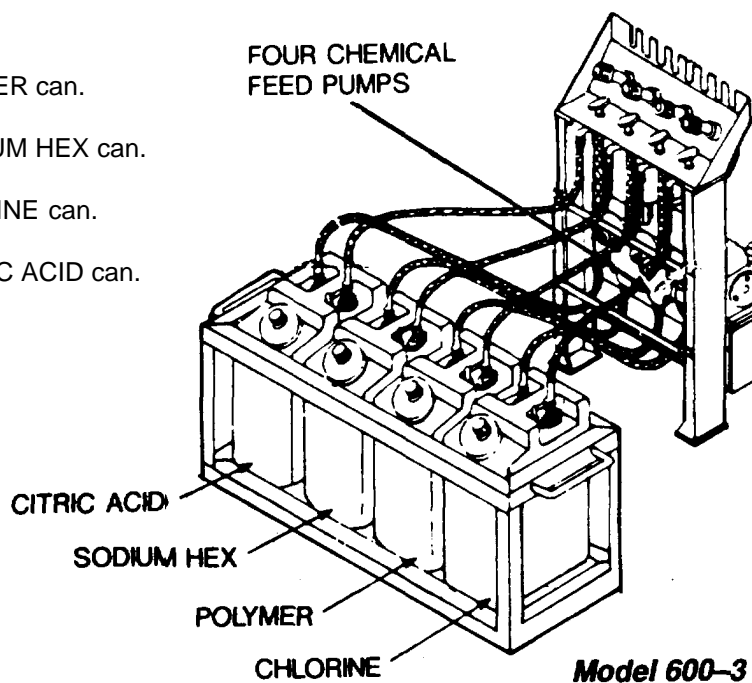

Figure 2-33. Tubes Attached to Chemical Feed Pump
r. Attach product water systems hose (fig. 2-33), working backwards from the distribution nozzle until last connection is made at the ROWPU. Make sure pump drain valve is closed.